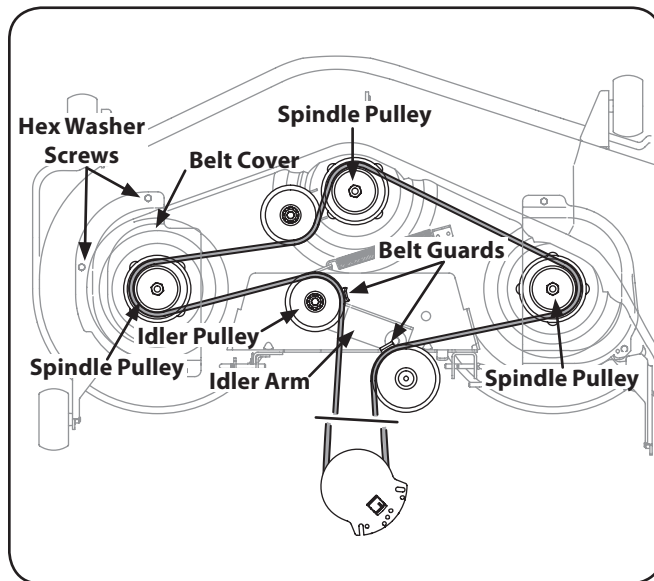

Figure 7-11
- Remove the hex washer screws securing the belt covers to the deck. See Fig. 7-11.
- Install the new belt around the spindle pulleys as shown and reinstall the belt covers. See Fig. 7-11.
- Route the belt as shown in Figure 7-11 and then reinstall the deck.